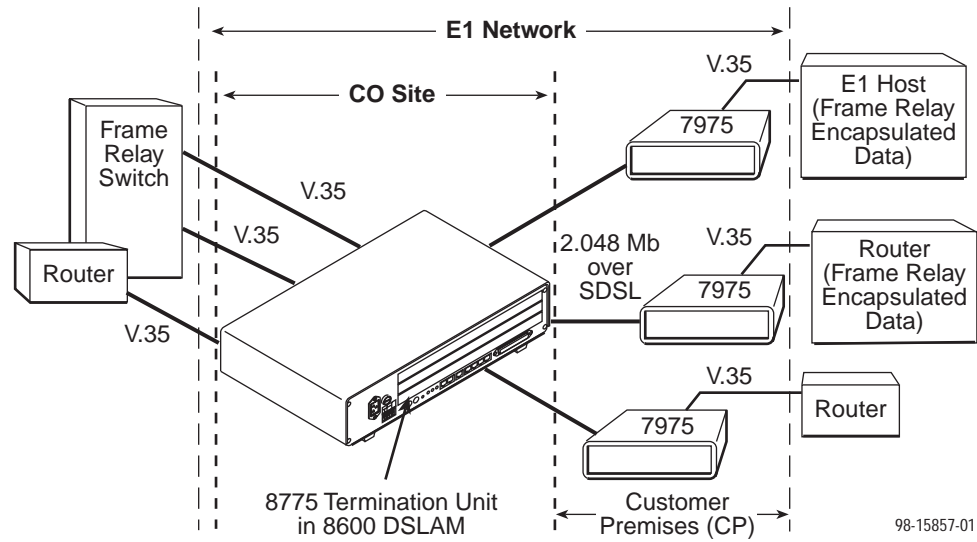

Figure 1-1. Sample Configuration
Figure 1-1 shows an E1 network application using an 8775 M/SDSL Termination Unit for access concentration in a central office (CO). A frame relay switch and a router are connected, through the termination unit, to partner units supporting an E1 host or router, and frame relay encapsulated or unframed data.